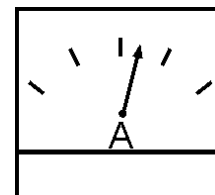

Figure 53. Ammeter
13. Observe the generator's ammeter (Figure 53) and verify it reads the anticipated amount of current with respect to the load. The ammeter will only display a current reading if a load is in use.